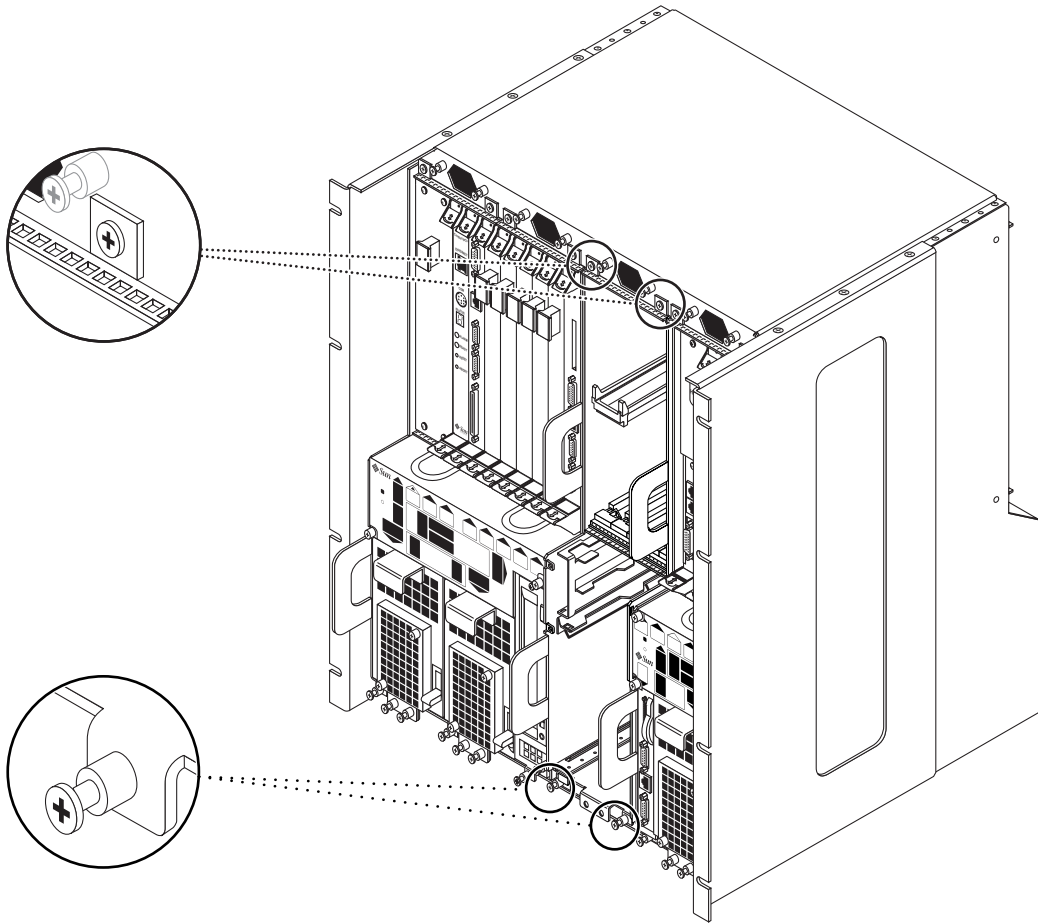

FIGURE 9-3 Loosening the Screws at the Top and Bottom of a Netra ct 400 Server
- If you are removing a Netra ct 400 server, loosen the *two* black captive screws at the top of the server and the *two* black captive screws at the bottom of the server (FIGURE 9-3).
- If you are installing a Netra ct 400 server, tighten the *two* black captive screws at the top of the server and the *two* black captive screws at the bottom of the server (FIGURE 9-3).